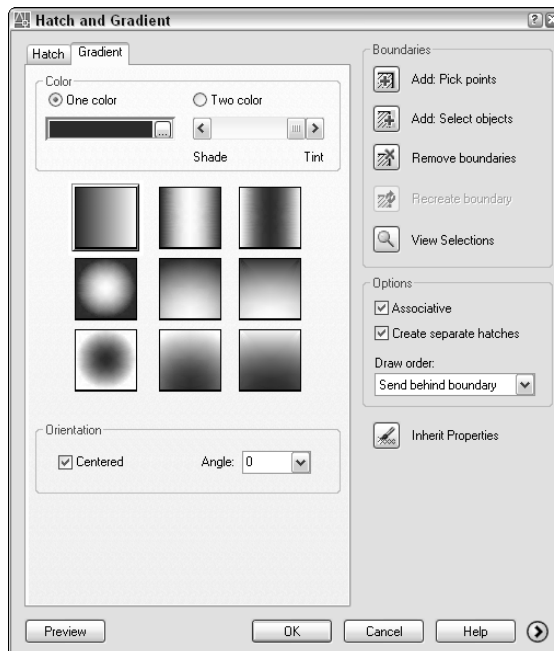

**Figure 16-24:** Use the Gradient tab of the Hatch and Gradient dialog box to create gradient fills of closed objects.
1. Choose Gradient from the Draw toolbar to open the Hatch and Gradient dialog box with the Gradient tab on top, shown in Figure 16-24.